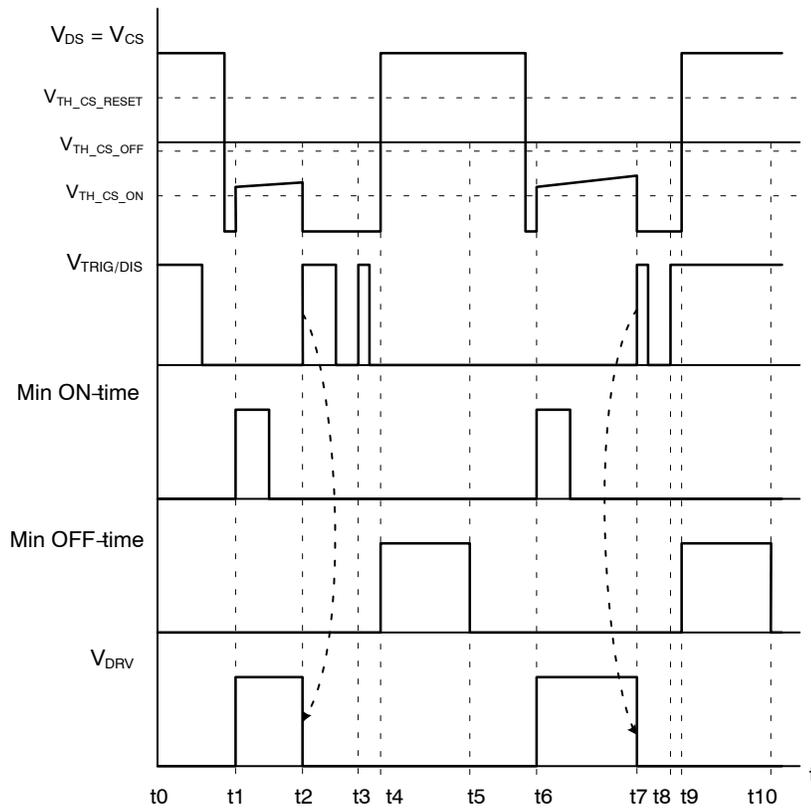

Figure 59. TRIG / DIS Input Functionality Waveforms – Two Pulses at One Cycle
Figure 59 shows IC behavior in case the trigger signal features two pulses during one cycle of the V_{DS} (CS) signal. The TRIG / DIS goes low enables the DRV just before time t_1 and DRV turns-on because the V_{DS} voltage drops under $V_{TH_CS_ON}$ threshold voltage. The TRIG / DIS signal disables driver at time t_2 . The TRIG / DIS drops down to LOW level in time t_3 , but IC waits for complete minimum off-time. Minimum off-time execution is blocked until CS